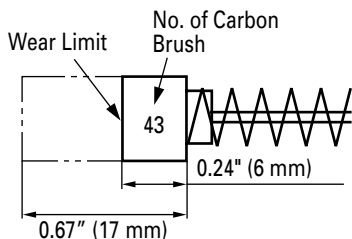

Fig. 28
4. Inspecting the carbon brushes (Fig. 28)
**NOTE:** Use HITACHI carbon brush No. 43 indicated in Fig. 28.